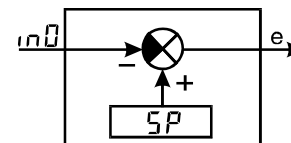

Fig.9.4
Calculates control error; has one input. The output signal is a difference between the set point (SP) parameter and input value (Fig.9.4).